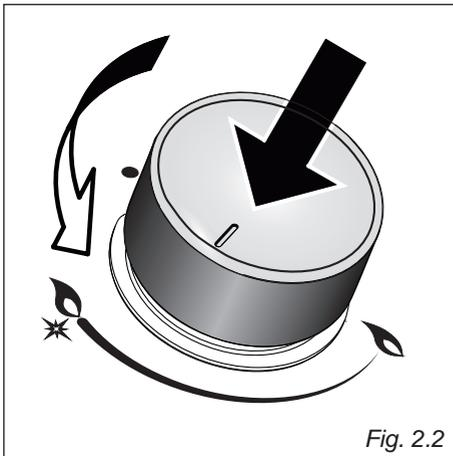

Fig. 2.2
- Press in the corresponding knob and turn counter-clockwise (fig. 2.2) to the full flame position marked by the "★" symbol (fig. 2.1); hold the knob in until the flame has been lit. In the case of a mains failure light the burner with a match or lighted taper.